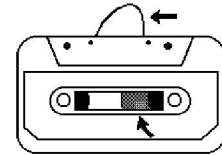

Fig.1
- Check that there are no loose layers of tape visible through the cassette center window (see Fig. 1). Take up any loose layers, using a pencil or hexagonal barrelled ballpoint pen, before inserting the cassette into the machine (see Fig.2).